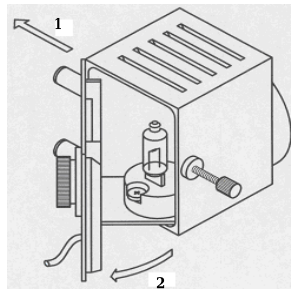

Figure 6-4 Open the back cover
2. Push the back cover in the direction of arrow 1 indicated in Figure 6-4. Then open the bulb house in direction of arrow 2 in Figure 6-4.